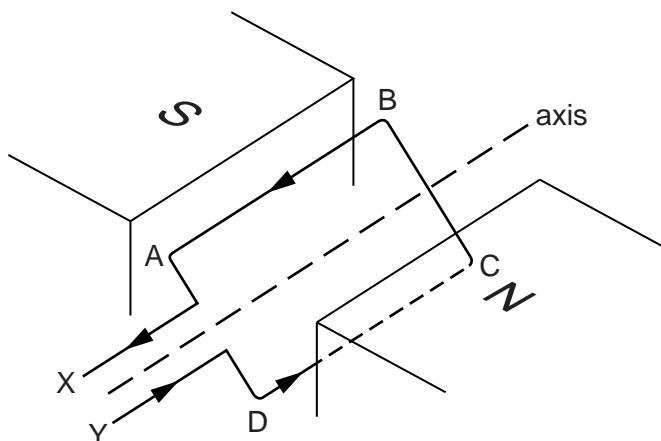

Fig. 10.2
(b) Fig. 10.2 shows part of a model of a d.c. motor.
(i) On Fig. 10.2, draw arrows to show the directions of the forces acting on side AB and on side CD of the loop. [1]
- (ii) With the loop in the position shown in Fig. 10.2, explain why the forces on AB and CD cause the loop to rotate about the axis.